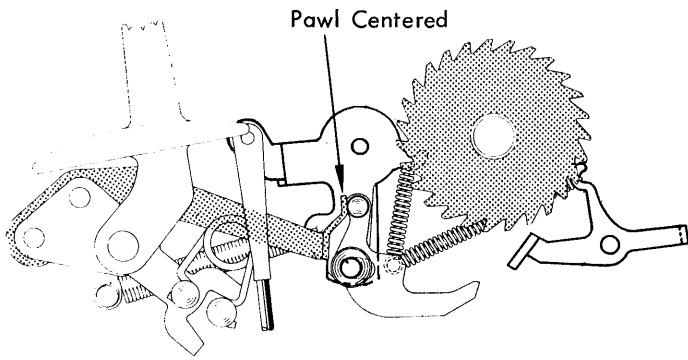

FIGURE 221. Vertical Adjustment Of Index Selection Cam
- b. Adjust the selection cam up or down so that the index pawl is centered on the cam surface with the selection lever in the single line space position (Fig. 221).